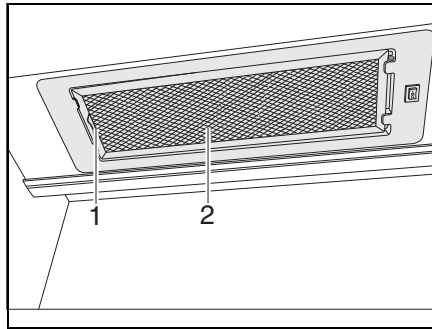

Fig. 148 Extractor hood
- Push the lever (Fig. 148,1) to the inside.
- Remove the filter (Fig. 148,2) downwards.